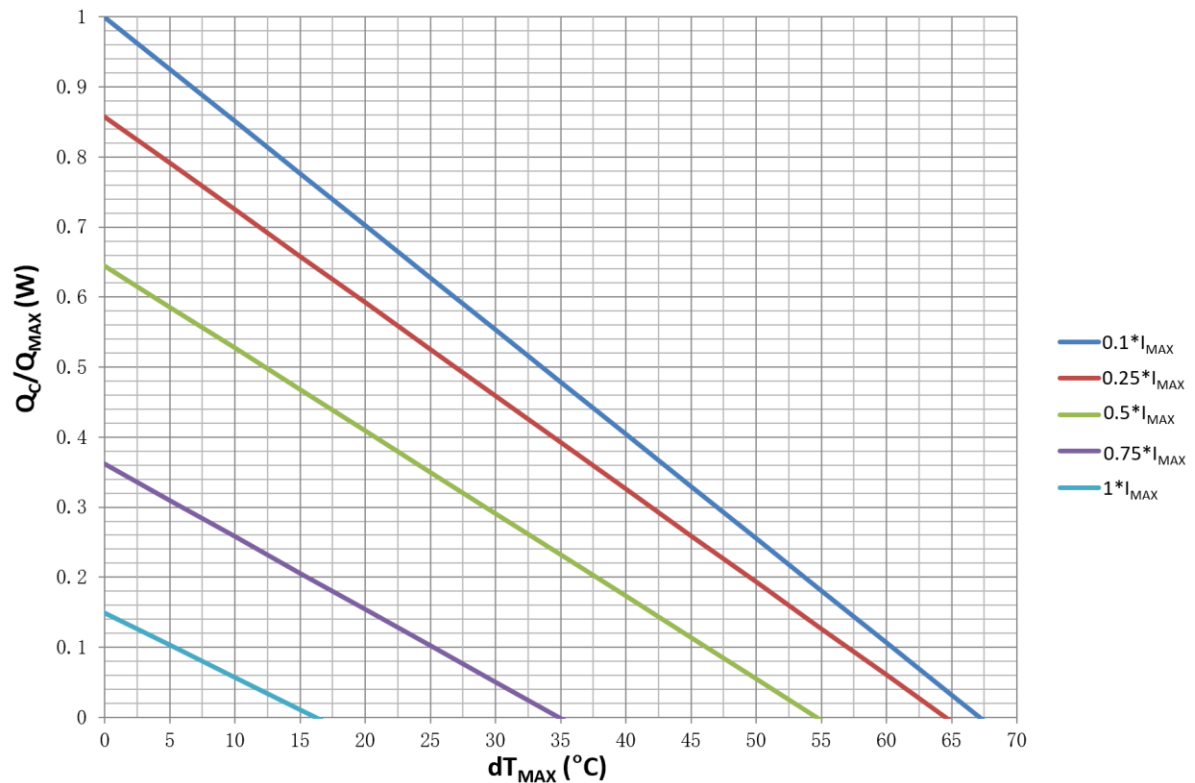
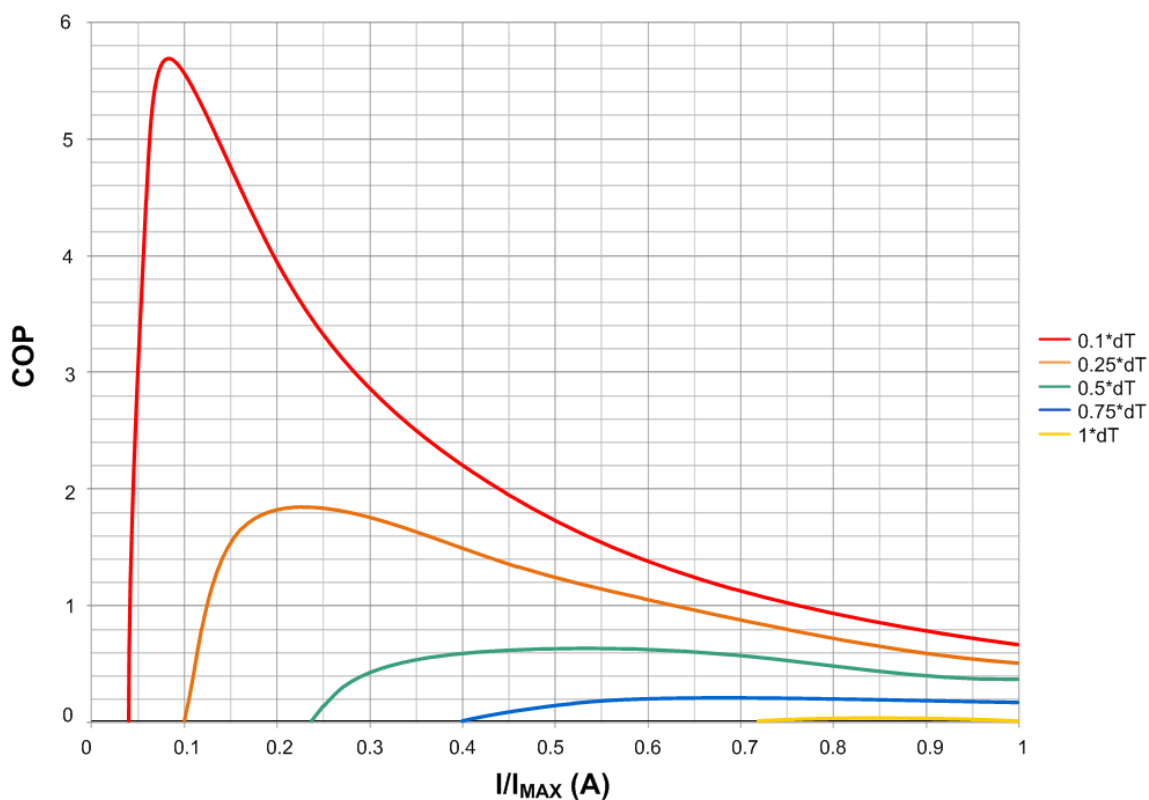

Figure 2.  $Q_c/Q_{MAX}$  vs.  $dT_{MAX}$
Figure 5. COP vs.  $I/I_{MAX}$
5. Use the charts provided in Figure 2 to Figure 5, to decide which TEC to use, what is the heat needed to be dumped through the heat sink, what is the heat sink temperature, etc.